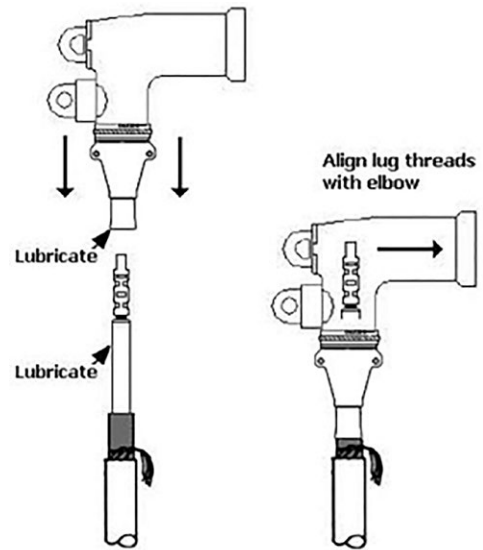

Fig. 8 - Lubricate, Install, & Align Elbow
- B. Slide the elbow onto the cable, the final seating of the elbow should align elbow and threaded portion of lug. Wipe off excess lubricant that may form at bottom of elbow. See Figure 8.